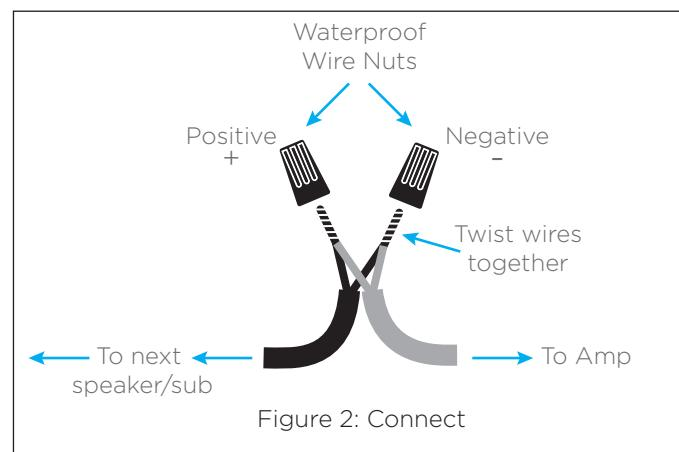

Figure 2: Connect
3. Connect to amplifier wiring using the supplied wire nuts (see Figure 2).
6. Connect the direct burial wire to each speaker wire; connections should be made with either silicone filled wire connectors or appropriate junction boxes (see Figure 2).